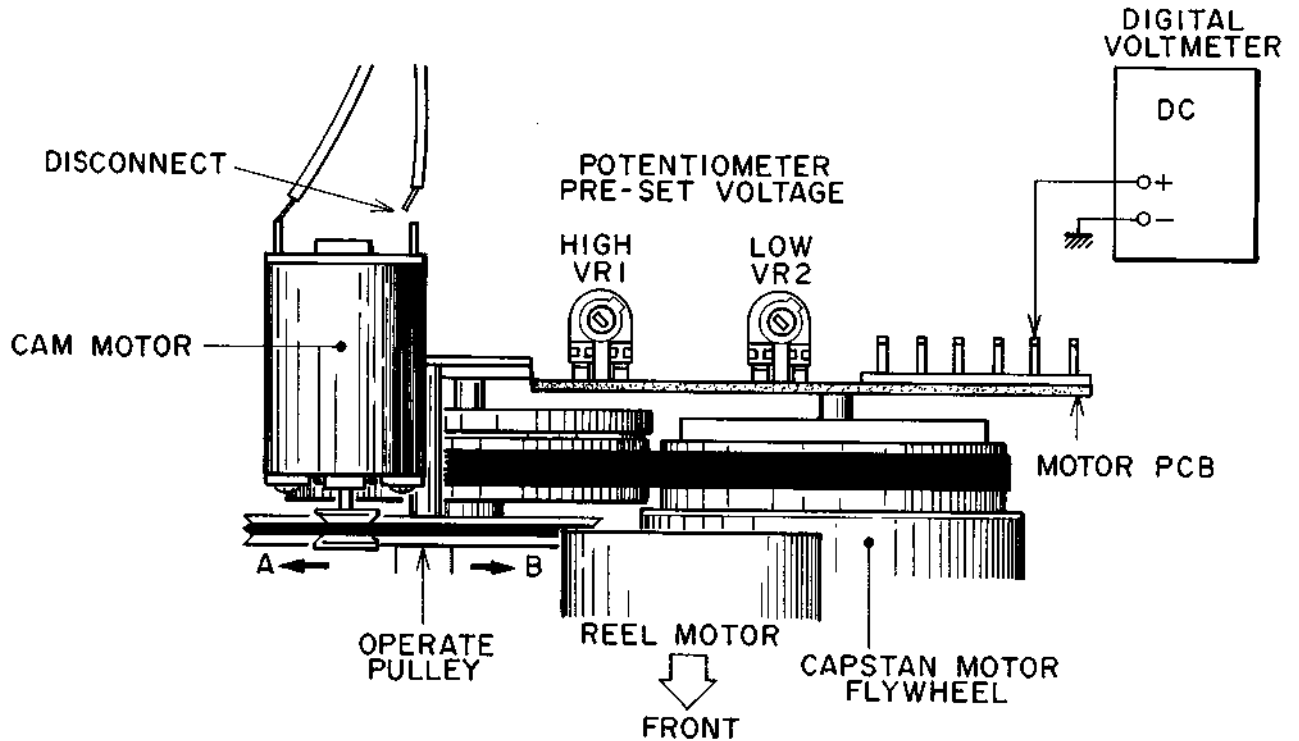

Fig. 7-1
- b. Connect the digital voltmeter as shown in Fig. 7-1.
- c. With power ON, adjust VR2 so that the voltage reading will be 0.78V (DC).